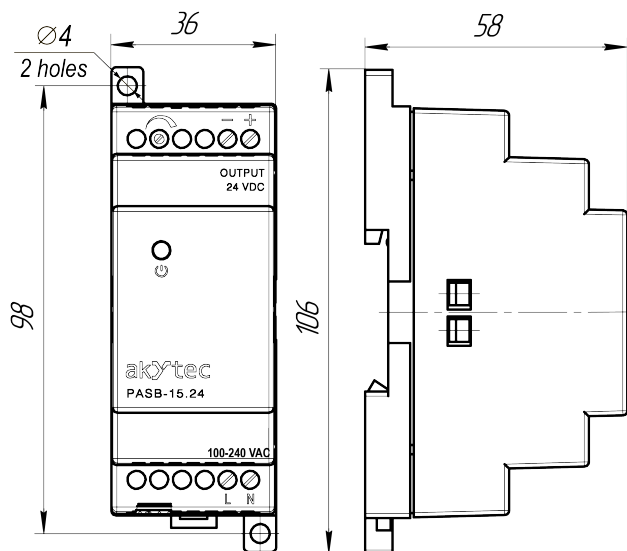

Fig. 5 – Dimensions
The device is designed to be mounted on 35 mm DIN rail or on an even vertical surface. The device overall dimensions must be taken into account when mounting the device (see Fig. 5). It is necessary to provide free space for routing wires to be connected to the device.
2. Secure the device on the vertical surface by screws (not included in the delivery) using the two mounting holes of the device housing (see Fig. 5).